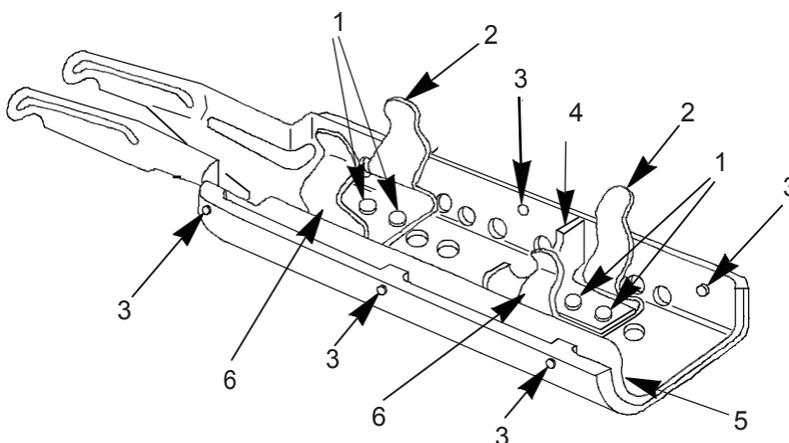

Figure 1. Heat Shield Assembly (Bottom View).
1. Visually inspect shield for cracks and/or breaks; liner (Figure 1, Item 5) for bends and/or dents; two barrel clips (Figure 1, Item 6) for bends; four clip ends (Figure 1, Item 2) for cracks or breaks; barrel locator (Figure 1, Item 4) for bends; and four rivets (Figure 1, Item 1) and six rivets (Figure 1, Item 3) for looseness.